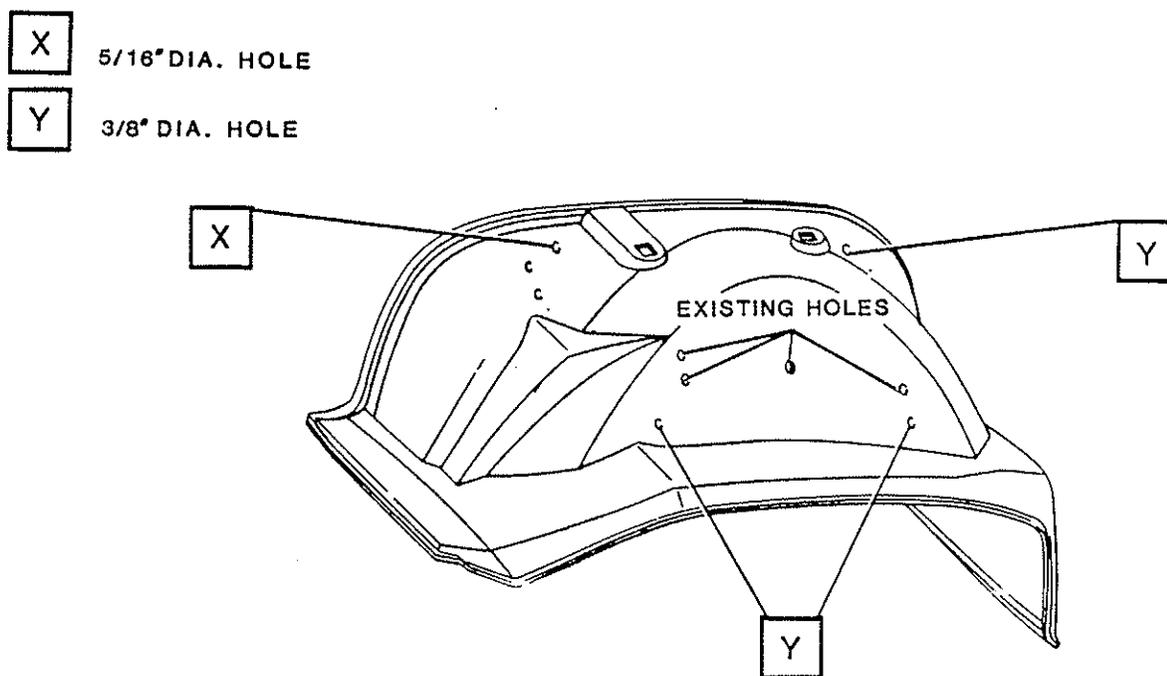

Figure 7.
64. Locate and drill 5/16 inch holes X, and 3/8 inch holes Y, in right fender skirt in prepunched depressions (Figure 7.).